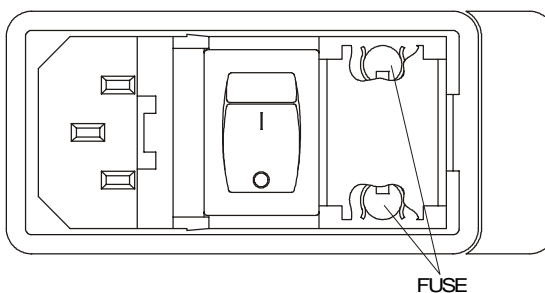
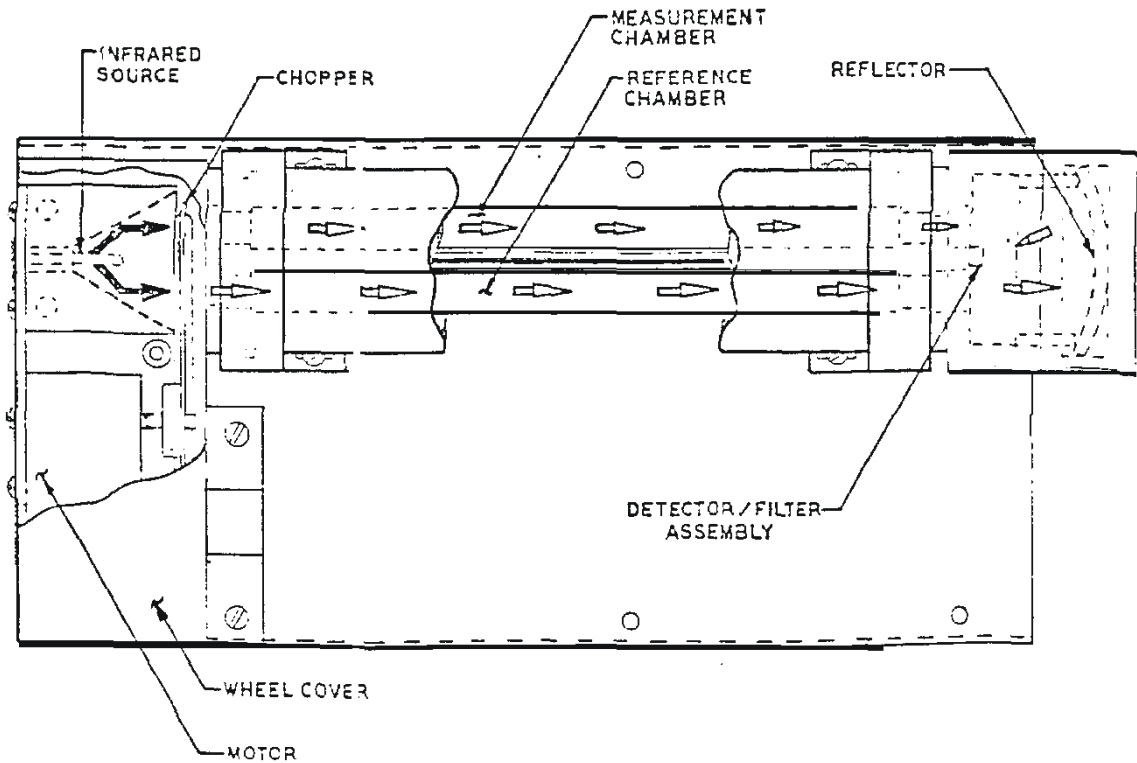
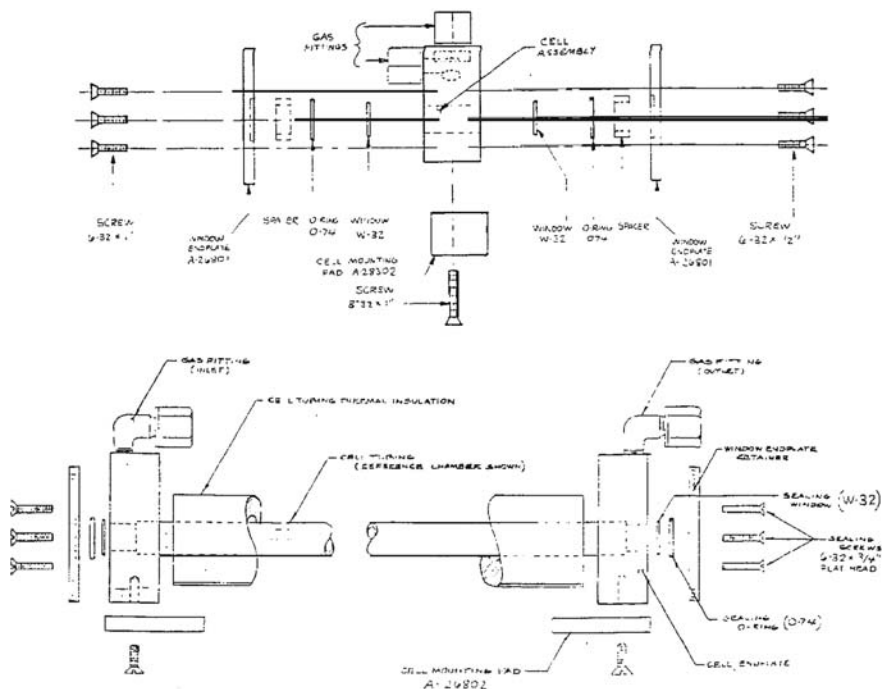

Figure 5-1: AC Fuse Replacement
Figure 5-2: Cell Block
Figure 5-3: Cell Assembly
2. The fuse receptacle is located in the power cord receptacle assembly in the upper left-hand corner of the rear panel. See Figure 5-1
All internal components are accessed by unbolting and pulling open the rack assembly, removing the front cover, as described earlier. The major internal component locations are shown in Figure 5-3, the cell block is illustrated in Figures 5-2/5-3, and the fuse receptacle is shown in Figure 5-1.